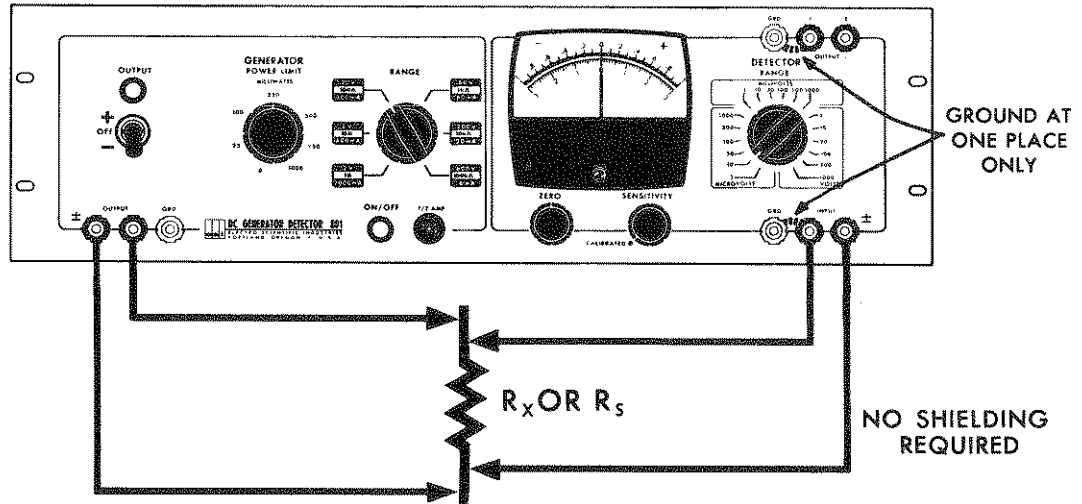

Figure 2.5 Low Resistance Measurement
To measure the approximate value of a very low resistance, such as a switch or relay contact or a piece of wire, use the circuit shown in Figure 2.5.
4. Connect the unknown resistor  $R_x$  in the circuit of Figure 2.5.
1. Connect a known standard resistor, having a value  $R_s$  not greater than 1000 ohms, in the circuit of Figure 2.5.